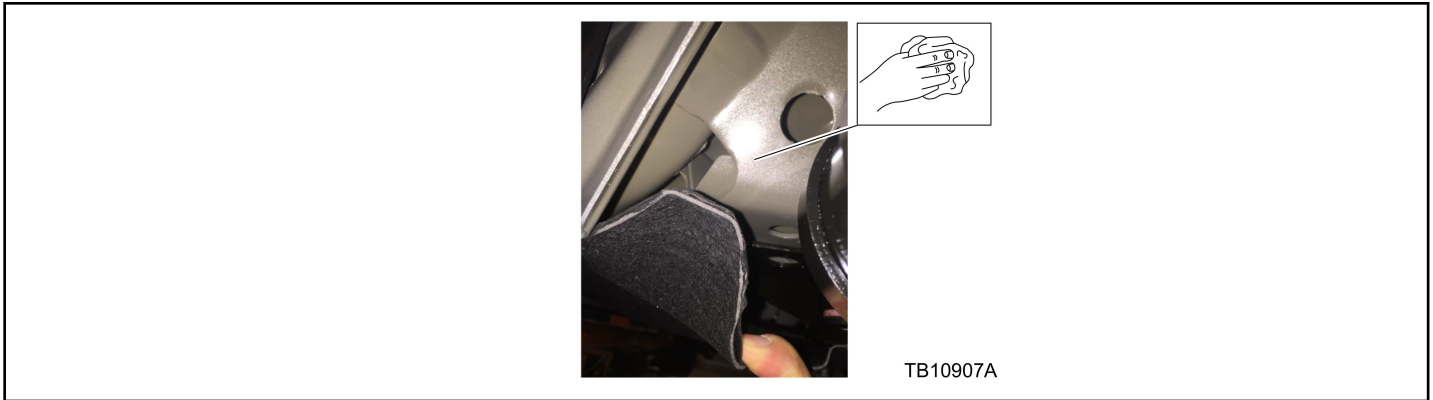

Figure 2 - Article 16-0083
4. Gently pull down the front of the shield to clean the body and sub-frame using Motorcraft® Metal Brake Parts Cleaner or equivalent. (Figure 2)